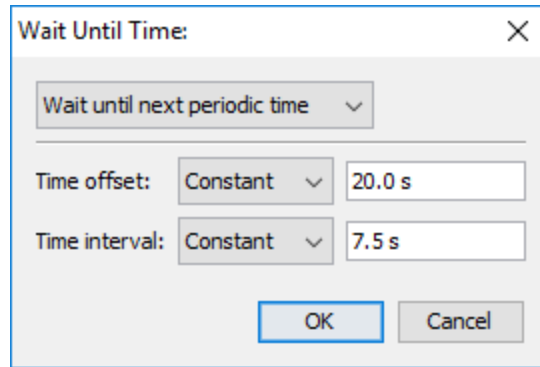

Figure 97. Wait Until Time dialog
2. Click the time to edit the value, which will show the **Wait Until Time** dialog as shown in Figure 97.